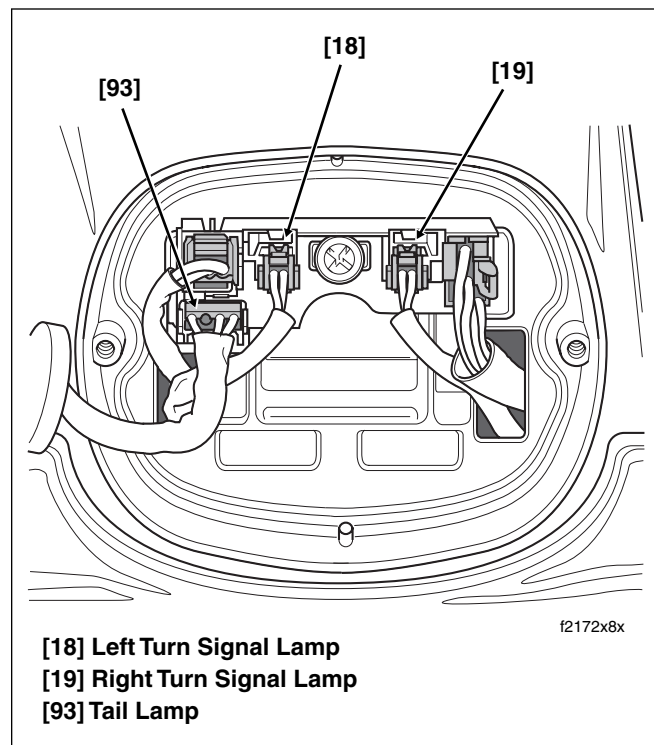

Figure 8-65. Release Tail Lamp Socket
3. Disconnect tail lamp connector [93], 4-place Multilock. Set tail lamp assembly aside. See Figure 8-65.
9. To install tail lamp assembly, orient 4-place Multilock socket so that the release button is at the bottom and insert into pin housing until it “clicks.” To avoid stressing wires, verify that tail lamp conduit is positioned on the outboard side of the rear fender tip lamp and left turn signal lamp conduit as shown Figure 8-65.